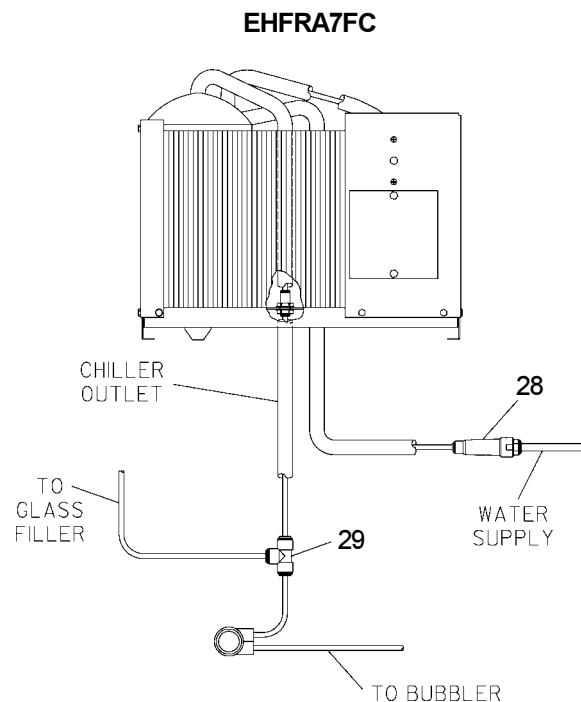

FIG. 3
**** For glassfiller models see fig. 3.**